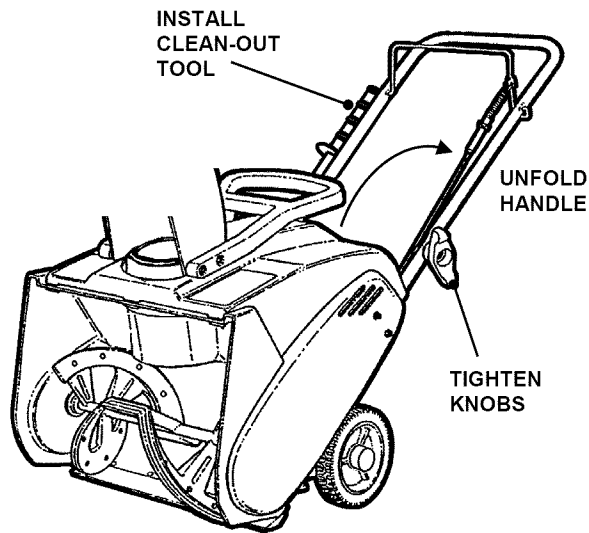

FIGURE 1
STEP 1: Remove machine from shipping carton. Remove and discard cardboard from between all handles. The right side of upper handle is positioned on the outside of lower handle and should be moved to the inside of the lower handle. Eye of eye-bolt must be on right side of machine at lower handle. Raise upper handle until the lower ends seat into concave area of lower handle. Tighten handle knobs securely. Insert clean-out tool into holders on right handle. See Figure 1.